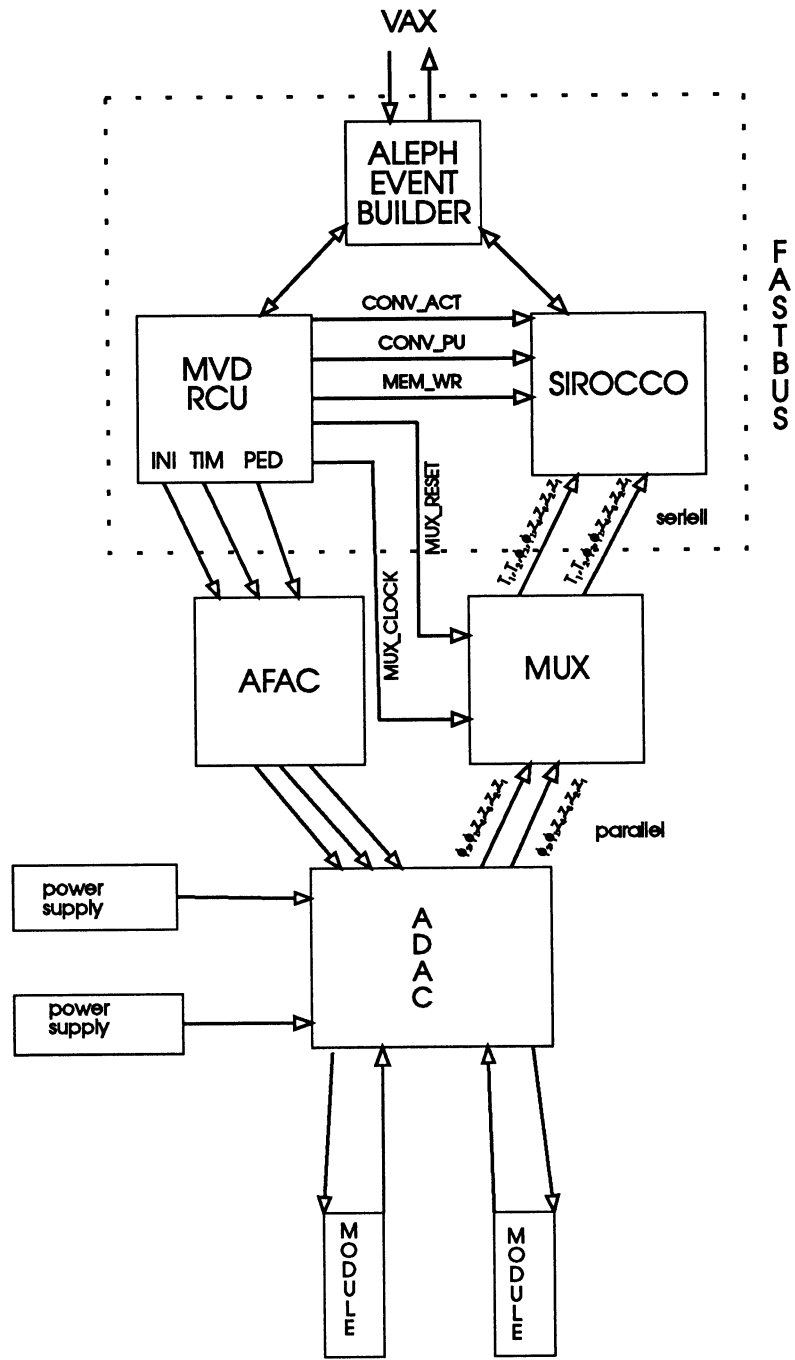
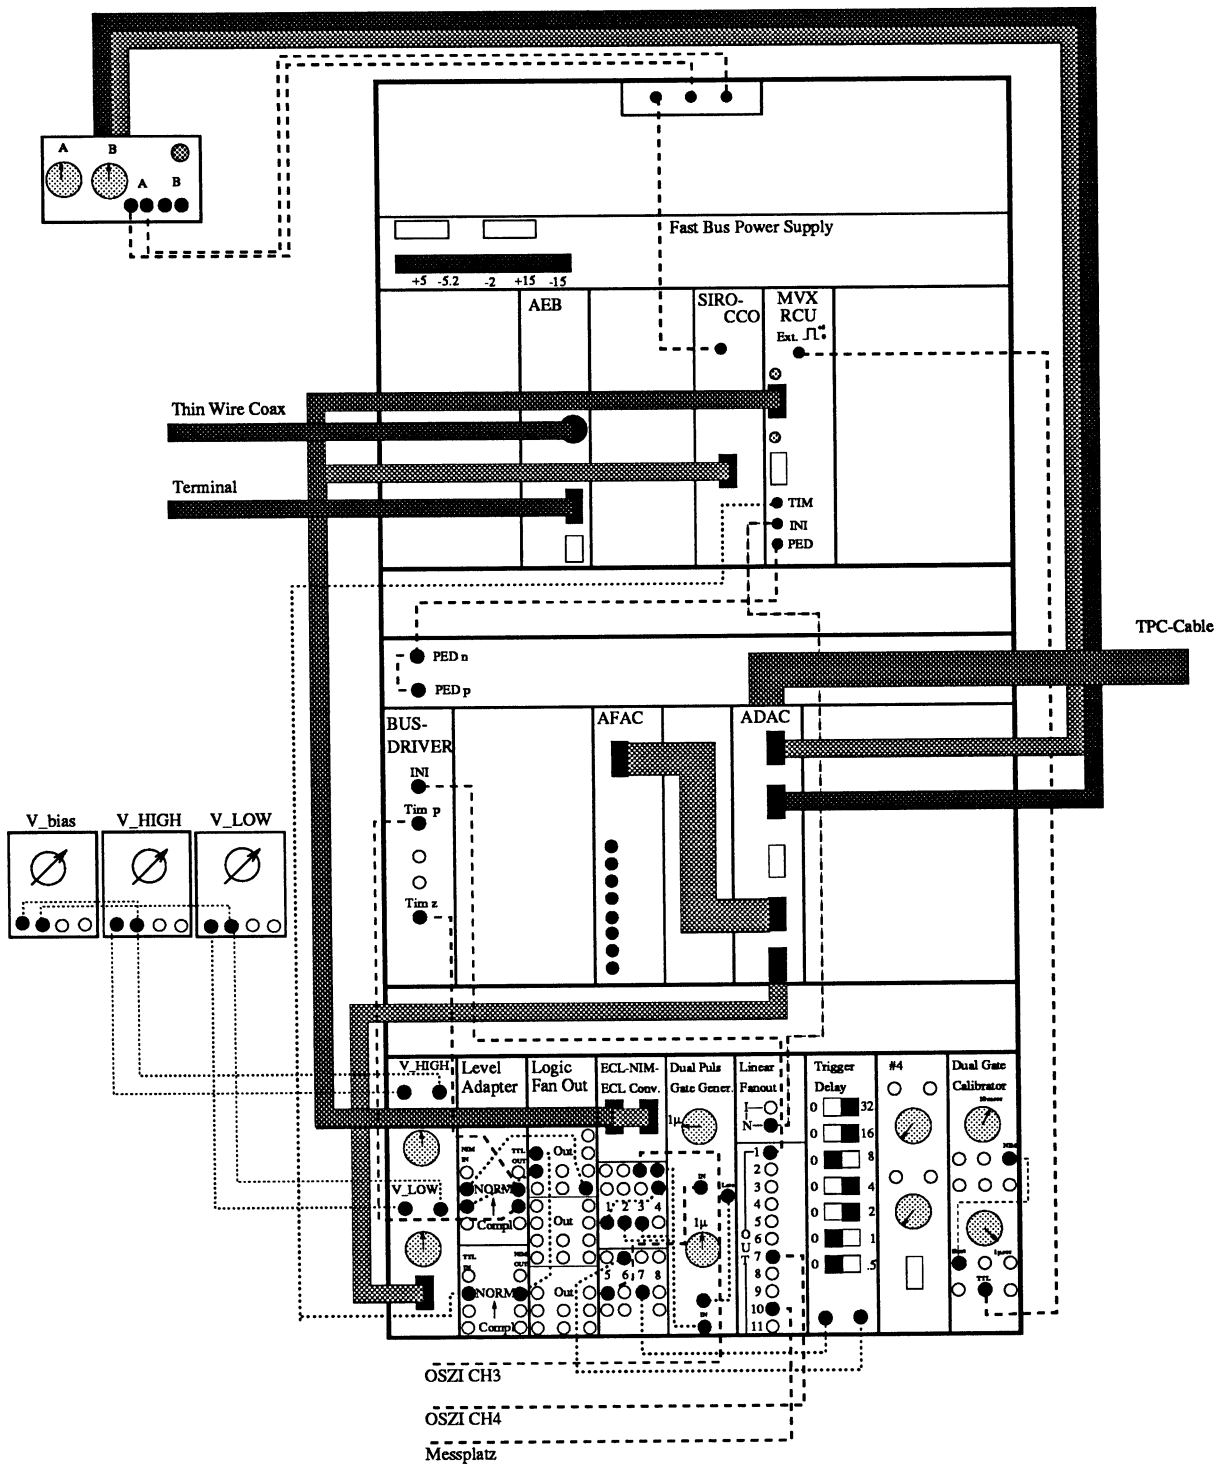
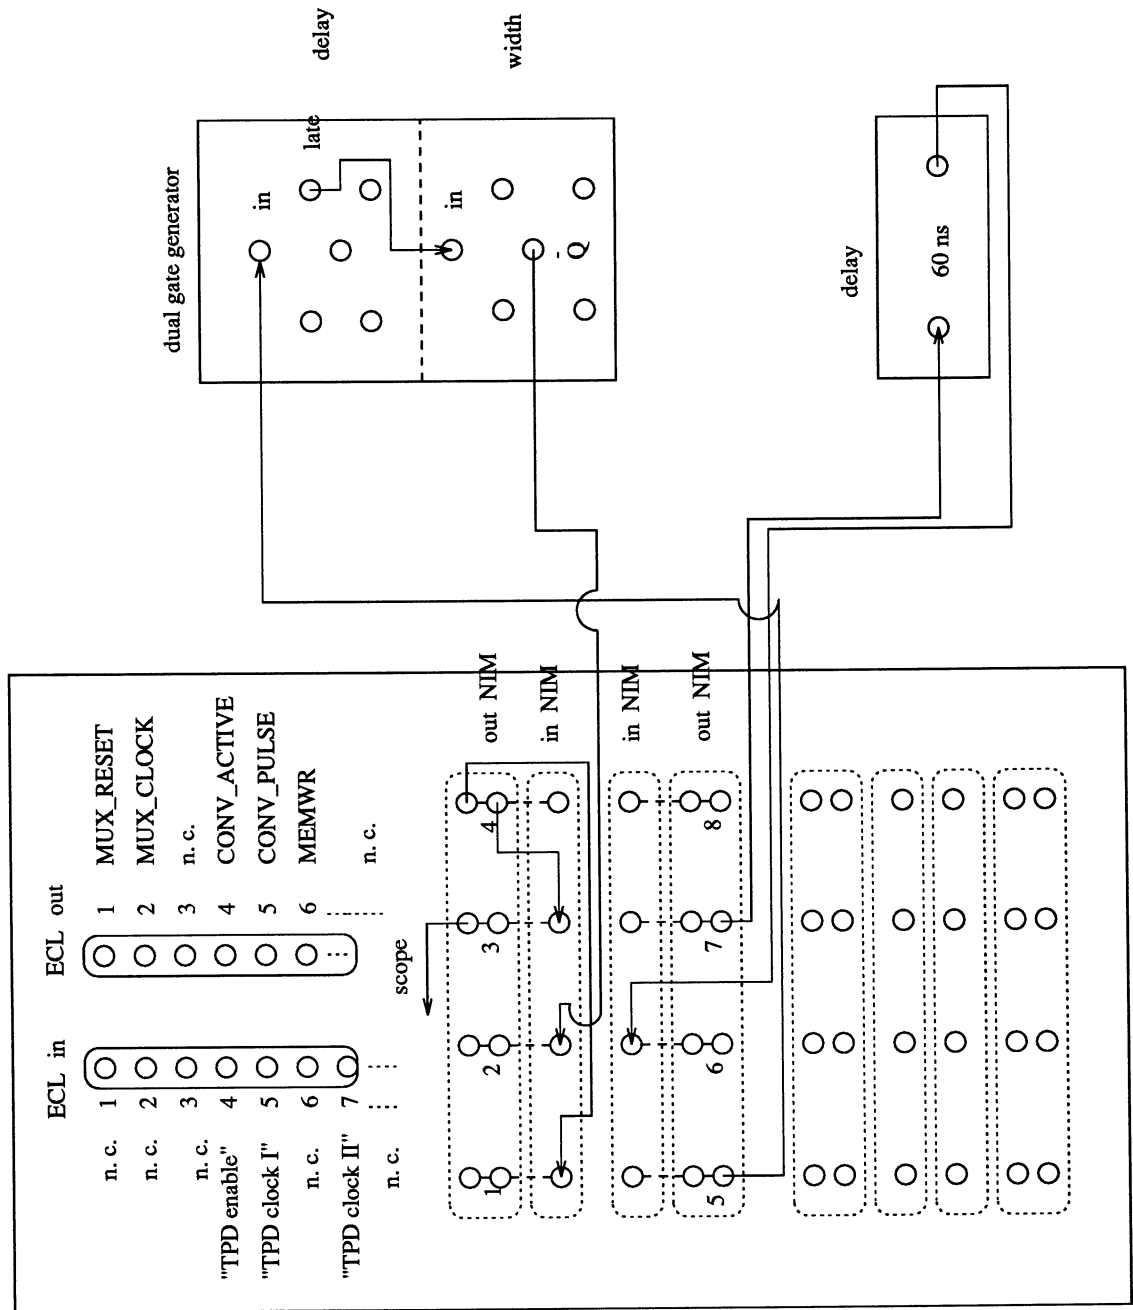

Figure 2: Block diagram of the components for reading out the silicon detector.
Figure 3: Sketch of the NIM rack electronics found in the test lab.
Figure 4: Detail of ECL-NIM convertor diagram in the electronics rack in the test lab.
physical location of the VDET MPI teststand is divided into the cleanroom that contains the silicon detector and the lab which contains the rack electronics and computers. Logically these simulate the pit and counting room. The counting room modules and their connections are illustrated in a block schematic in Fig. 2. Figures 3 and 4 show the lab configuration.
This path goes from the counting room to the pit. The bank of voltage supplies controls the operating voltages on the CAMEX as well as the bias voltages on the detectors. Details of the layout, the meanings of the various voltages and the procedure for turning on the detector are given in Section 4. Here we only point out that the voltages coming from this bank are connected to the module indicated in Fig. 3 in the bottom left corner of the rack (marked V HIGH and V LOW in the figure). This module has connections for voltage monitoring (also described later in Sect. 4) and a cable that carries the voltages to the ADAC so that they may be conveyed to the TPC cable. In ALEPH the voltages are generated by special computer controlled power supplies.
The CONV\_AC, CONV\_PU, and MEMWR timing signals are carried by a ribbon cable that runs from the MVDRCU to an ECL-NIM convertor and then to the SIROCCO. The general path of the ribbon cables from the MVDRCU and SIROCCO to the ECL-NIM unit is indicated in Fig. 3; details of the connections at the ECL-NIM unit may be found in Fig. 4.
The voltage ramping sequence must be carefully followed. If not, damage to the CAMEX/LD is likely. At this point the monitoring of the detector via scope is recommended. (See Figs. 3 and 4 for the proper electrical connections.)
1. The FASTBUS and NIM power supplies must be turned on. The location of these supplies is shown in the drawing of the rack layout in Figs. 3 and 4. Use the buttons for monitoring the FASTBUS voltage to be sure all is well. If not, cycle the FASTBUS supply.